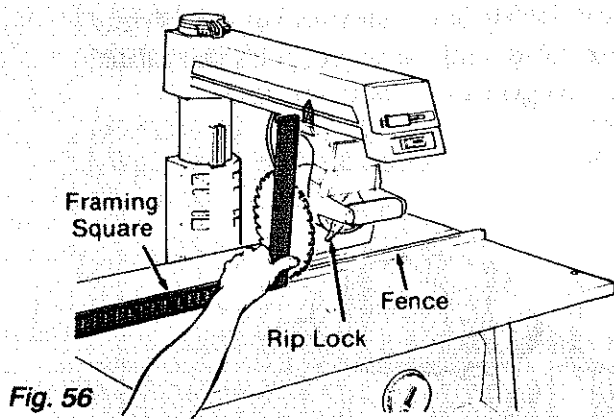

Fig. 56
3. Place the long edge of the framing square on the *table* and the short edge against the *blade*. Make sure that the square is against the blade surface and not the set of a tooth. (Figure 56).